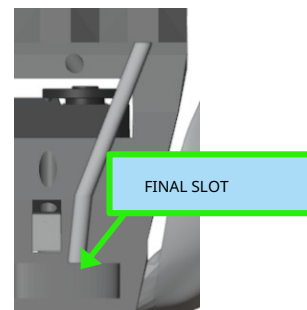

Figure 5.23: Inserting tube into the final slot (rear view)
2. Insert the other end into the final slot shown in figure 5.23 : if the tube is too long, shorten it by cutting it with a utility knife.